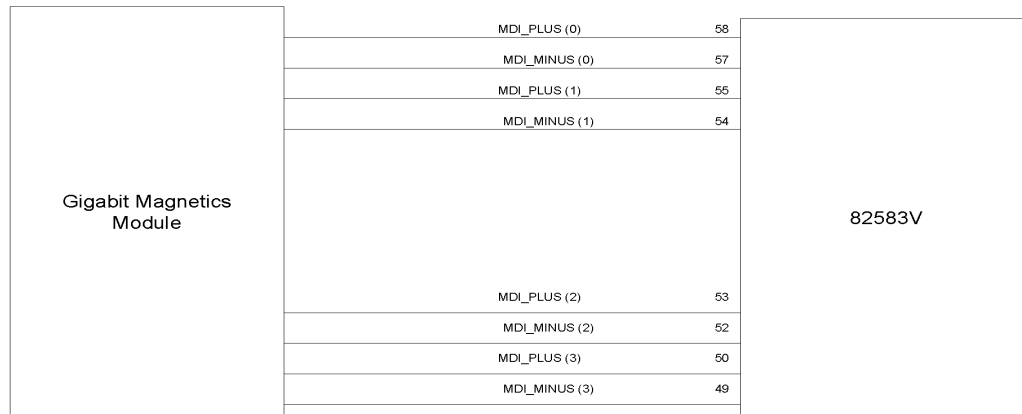

Figure 53. 82583V Gigabit Magnetics Module Connections
2. Connect MDI pair 0 (pins 57 and 58) and MDI pair 1 (pins 54 and 55) to your magnetics. MDI pair 2 (pins 52 and 53) and MDI pair 3 (pins 49 and 50) can each be pulled up to 1.9 V dc through a 50 Ω resistor or connected to the magnetics as a gigabit device if it is desired at a later time to enable gigabit by altering bit 14 of the LED 1 Configuration Defaults/PHY Configuration; word 0x1C (Giga Disable). See Figure 53 and Figure 54 for details.